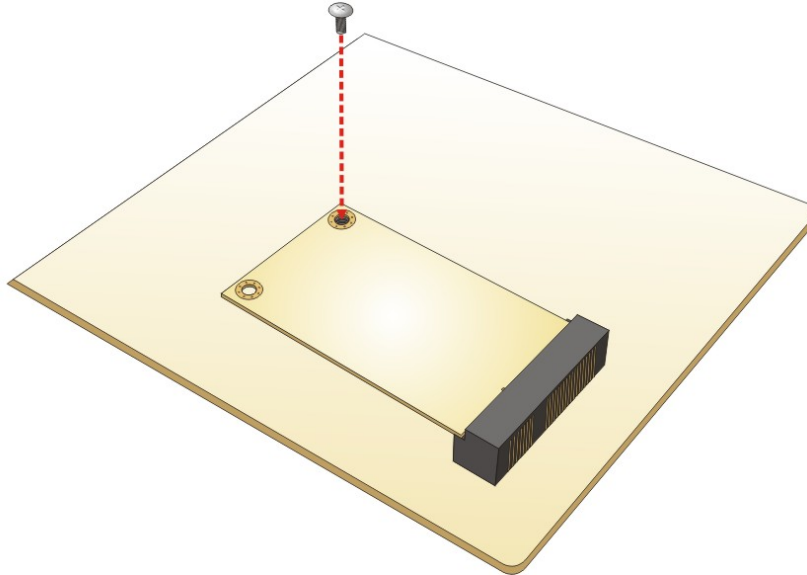

Figure 4-4: Securing the PCIe Mini Card
Step 4: **Secure the PCIe Mini card.** Secure the PCIe Mini card with the retention screw previously removed (**Figure 4-4**).